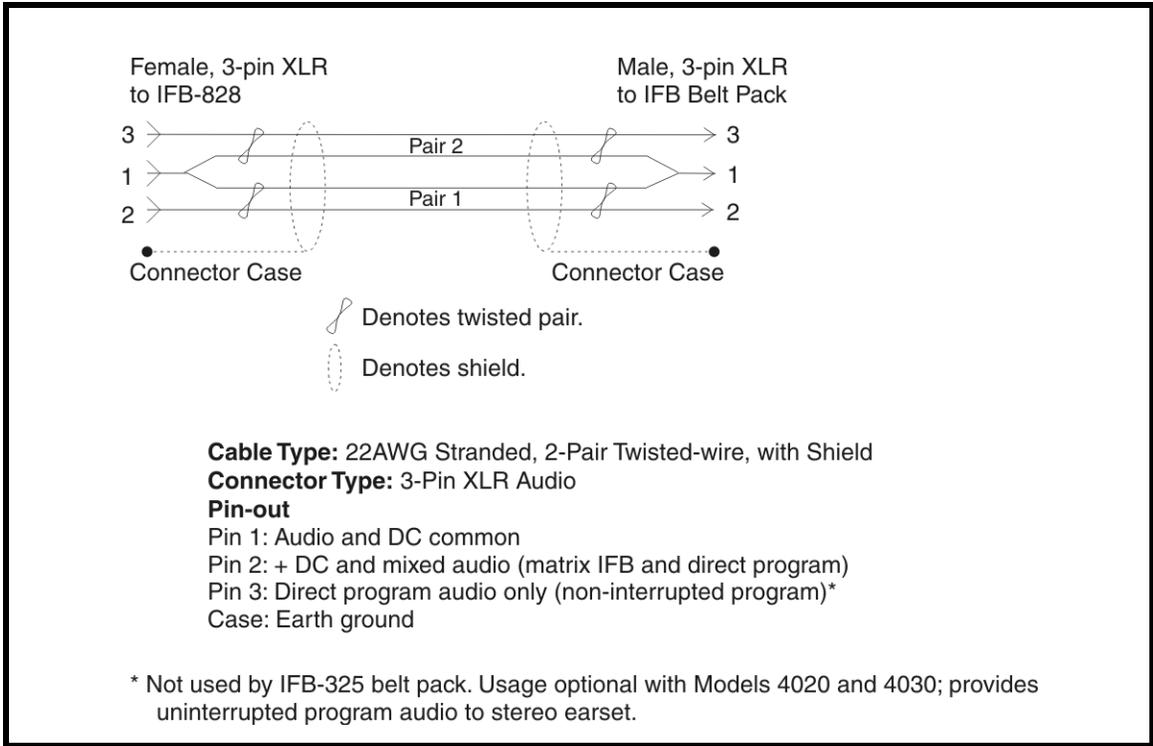

FIGURE 2. IFB Belt Pack Interconnect Cable Wiring Diagram
8. Connect from the appropriate 3-pin XLR output connector of the IFB-828 to the LINE (or LINES) connector of the IFB belt pack. Typical cable wiring is shown in Figure 2 on page 6.
Use Table 1 on page 5 and the cable wiring in Figure 2 to connect one (1) or two (2) program sources to each IFB-828 channel. In this application, each direct program input at the IFB-828 feeds to the non-interrupt channel of the belt pack, and the level is adjusted by the NON-INTERRUPT control on the belt pack; each IFB input feeds to the interrupt channel and is adjusted by the INTERRUPT control. The control on the IFB-828 front panel can be used to mix the NON-INTERRUPT audio into the INTERRUPT audio.